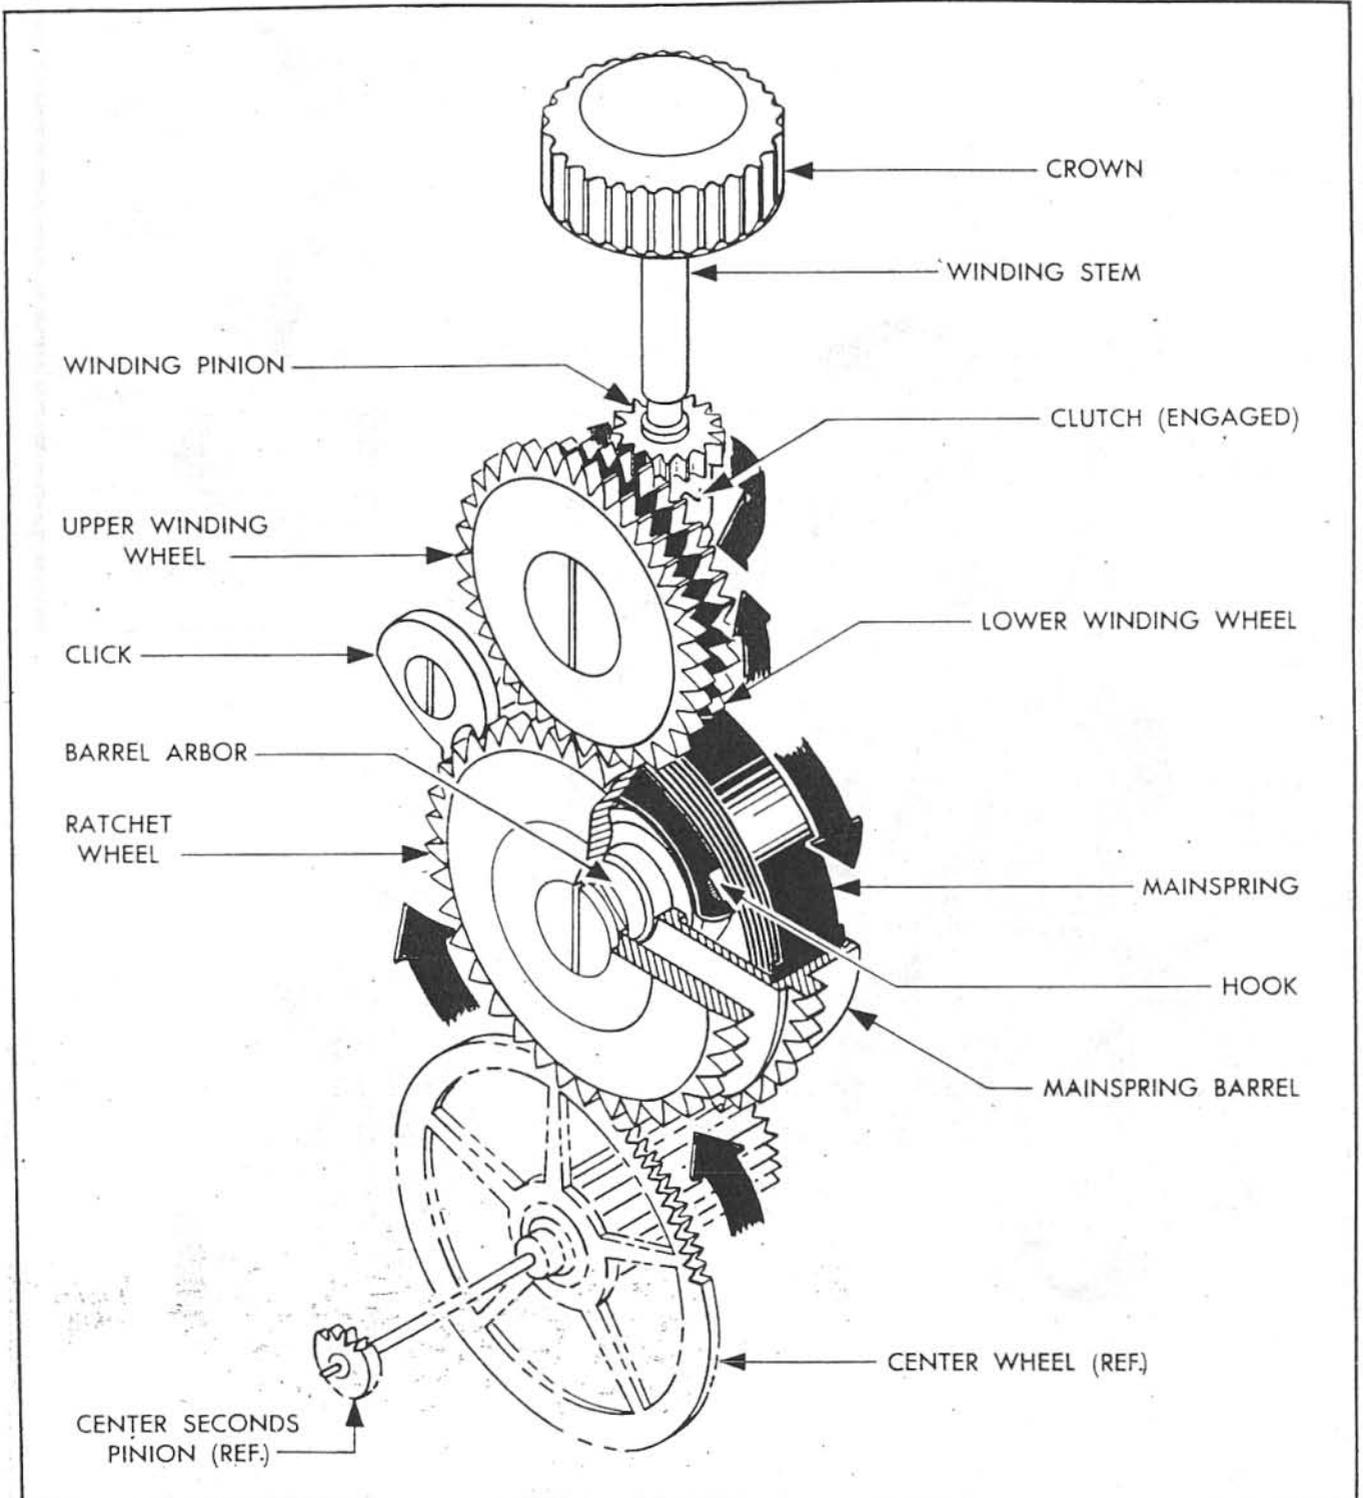

Figure 4—Schematic of Events During Winding
a. WINDING.—What occurs in the watch during the winding operation is shown in the schematic diagram, figure 4. The winding pinion is in mesh with the lower winding wheel at all times. With the stem and crown in the winding (and running) position, the clutch teeth at the bottom of the winding pinion are engaged with similar teeth at the top of the clutch. The winding pinion and clutch are both located on the stem. The pinion is free to rotate on the stem but the clutch has a square hole that mates with a square on the stem; thus, while it is free to slide on the stem, it is forced to rotate with it.